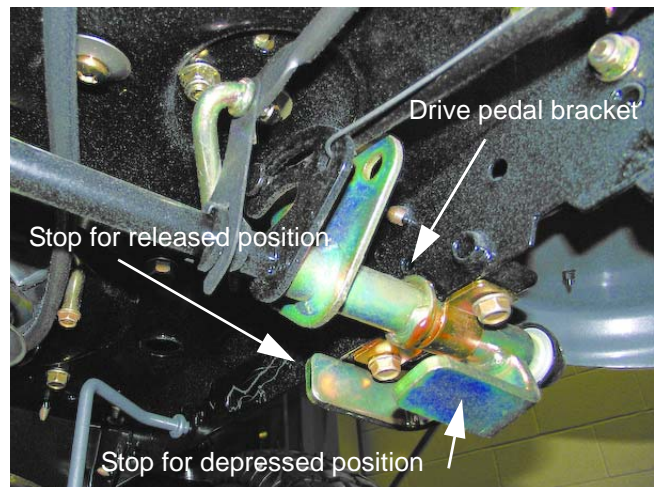

Figure 5.6
5. Check the drive control linkage. See Figure 5.6.